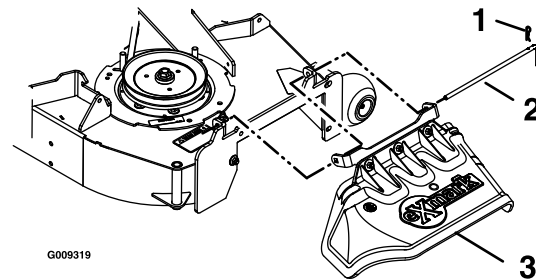

Figure 7
- Install the discharge deflector using the chute pivot pin and hairpin (see Figure 7).